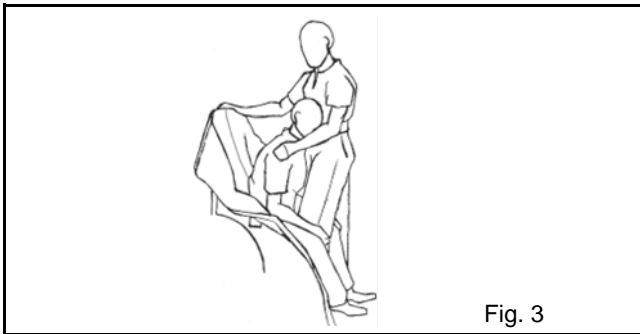

Fig. 3
- 2) Ensure that the top centre handle of the sling and the positioning stripe is centered on the resident/patient's back (see Fig. 3). Lean resident/patient's back into chair or wheelchair.